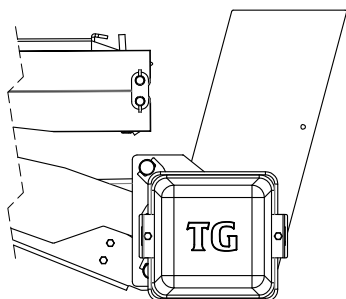

Figure 8: Platform Folded and Level.
6. **RAISE** the platform to a horizontal position (Figure 8).